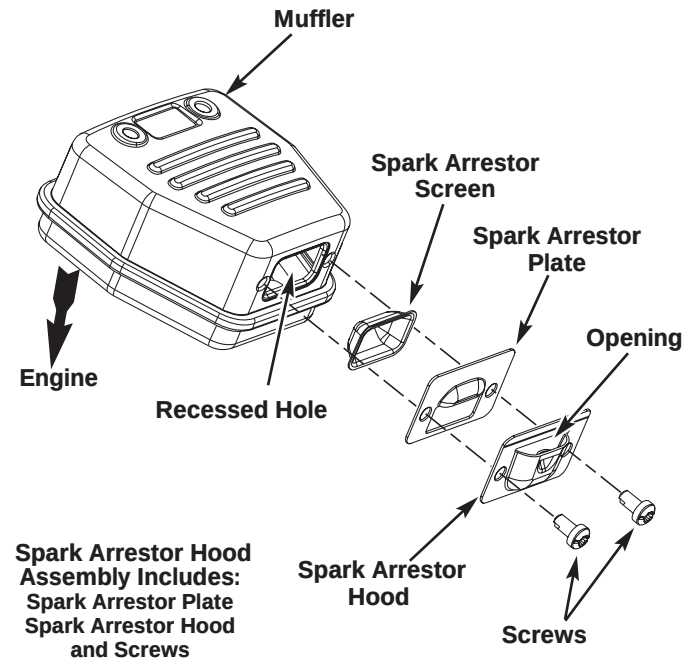

Fig. 38
2. Locate the muffler, but do not remove it. Find the two (2) screws on the bottom of the muffler (Fig. 38). These two screws hold the Spark Arrestor Hood Assembly and the spark arrestor screen to the bottom of the muffler. Remove the two (2) screws using either a torx #20 or flat blade screwdriver.
6. Place the spark arrestor plate on top of the spark arrestor with the "raised" side up and the opening facing towards the engine (Fig. 38).
7. Place the spark arrestor hood on top of the spark arrestor plate with the "raised" side up and the opening facing AWAY from the engine (Fig. 38). Verify that the exhaust will be directed AWAY from the engine.